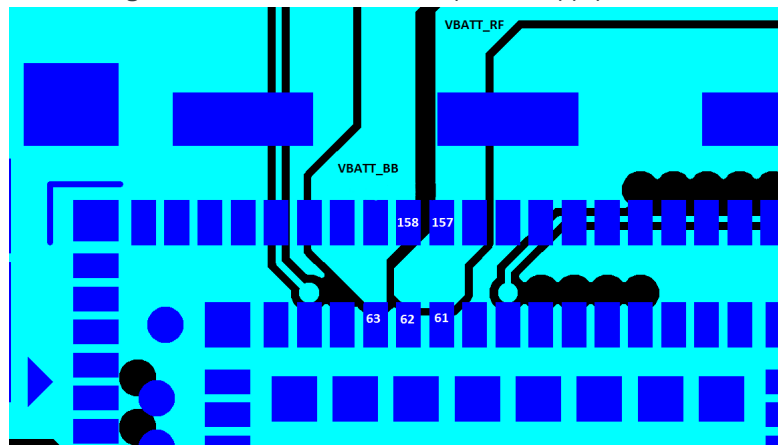

Figure 5-1: Power Supply Routing Example
- Figure 5-1 shows separate traces for VBAT\_BB and VBAT\_RF. If VBAT\_BB and VBAT\_RF share a single power supply, these traces should be connected.